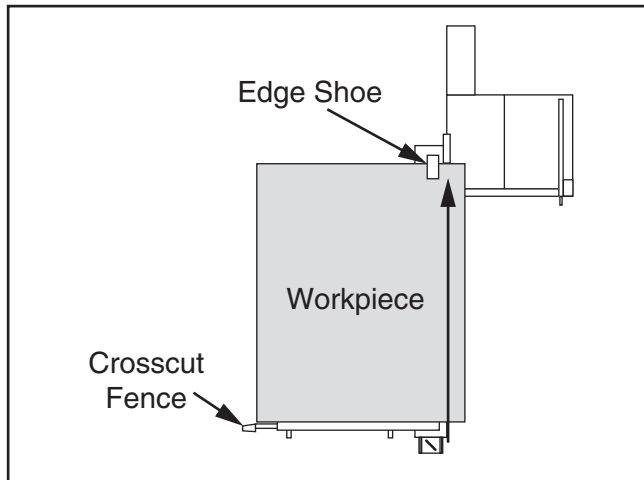

Figure 107. Rip cut with sliding table and crosscut fence.
The Model G0764Z has the capability of rip cutting large panels (see **Figure 107**). The sliding table removes the burden of sliding a large and heavy panel over a stationary table surface.
The edge shoe (see **Figure 107**) is used to stabilize the front end of a workpiece when otherwise unsecured.
6. Load workpiece onto table saw. The setup should look similar to **Figure 107** on **Page 56**.